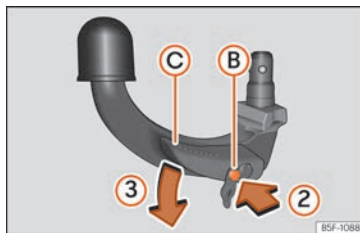

Fig. 253 Step 2.
- Press the release bolt (B) in the direction of arrow ②, and at the same time press lever C in the direction of arrow ③ as far as it will go »» Fig. 253.